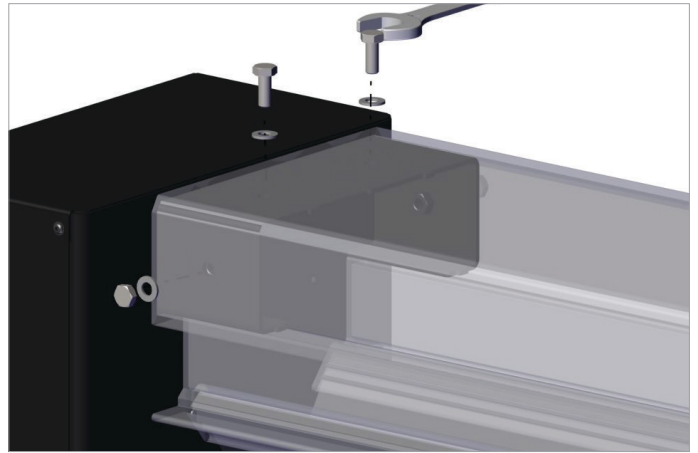

Fig. 6.3.2 Mounting the motor compartment to the rail
- Mount the motor compartment to one end of the rail, and secure with 4x M8x20 bolts and 4x M8 washers using wrench 13 (0,5 in.). Refer to fig. 6.3.2.